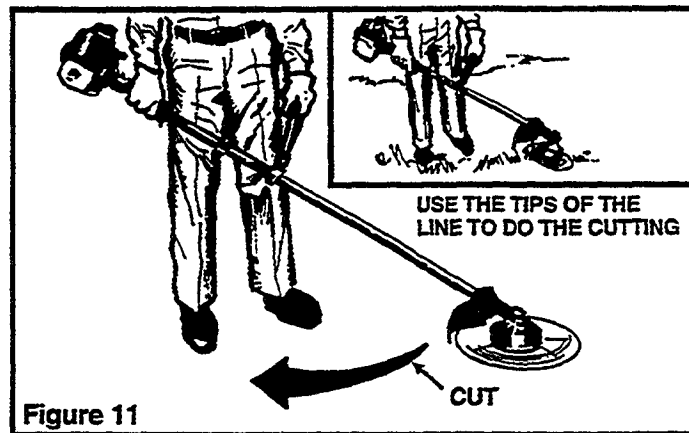

Figure 11
- Cut from left to right with the engine at full throttle, so that clippings will be thrown away from you (**Figure 11**).